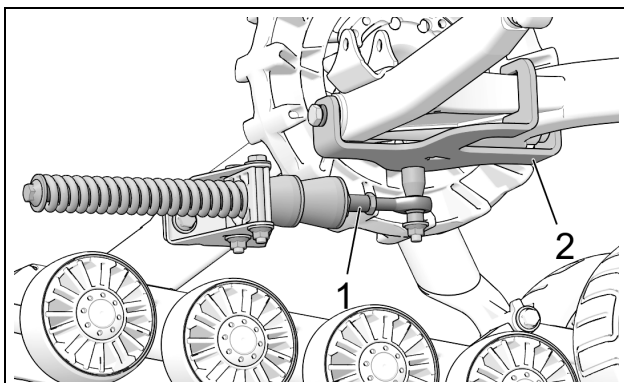

Figure 15
- Stabilizing arm (1) must be attached to rear anchor bracket (2) installed on vehicle. See Figure 15.
*NOTE: Actual Rear Anchor bracket (2) installed on vehicle may differ from the one in the illustration.*